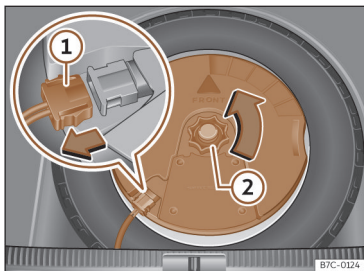

Fig. 236 In the luggage compartment: remove the subwoofer.
- Disconnect the *subwoofer*»» **Fig. 236** ① speaker cable.
- Turn the securing wheel in an anti-clockwise direction»» **Fig. 236** ②.